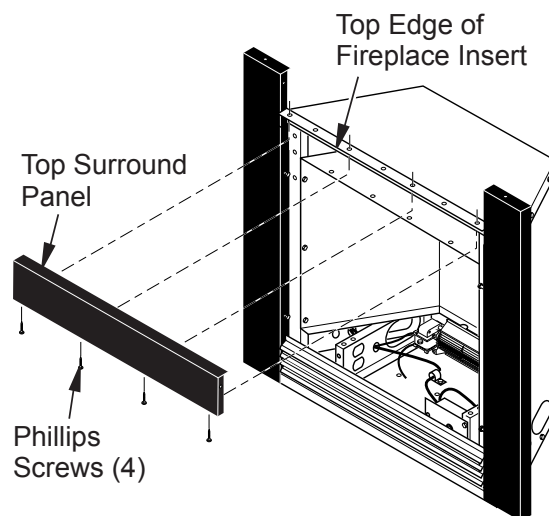

Figure 8 - Attaching Top Surround Panel
5. Place top surround panel at top of fireplace insert. Bottom edge of panel will slide under top edge of insert. Align top panel screw holes with those in insert. Install four #8 Phillips screws, do not tighten. See Figure 8.